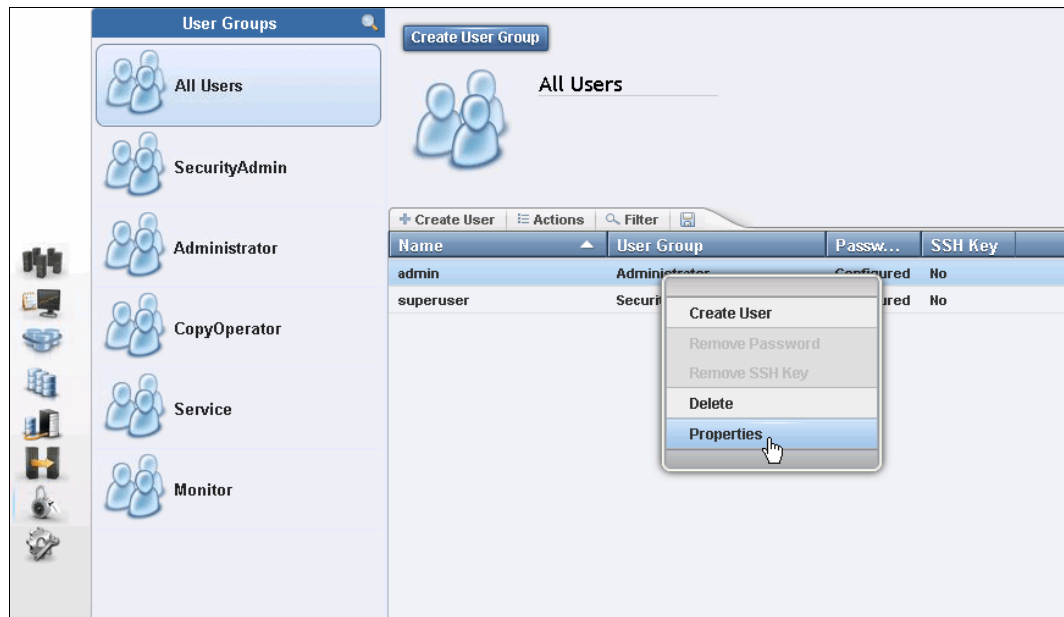

Figure 8-7 User Properties
2. Right-click the user name for which you want to upload the key and click **Properties** (Figure 8-7).